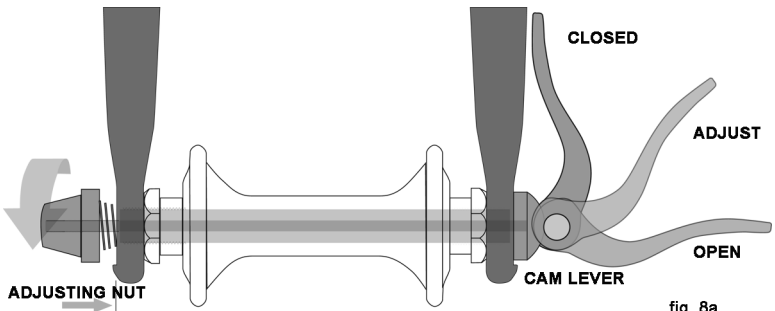

fig. 8a
There are currently two types of over-center cam wheel retention mechanisms: the traditional over-center cam (fig. 8a) and the cam-and-cup system (fig. 8b). Both use an over-center cam action to clamp the bike's wheel in place. Your bicycle may have a cam-and-cup front wheel retention system and a traditional rear wheel cam action system.
a. Adjusting the traditional cam action mechanism (fig. 8a)
(2) If your bike has cam action front wheel retention, move the cam lever from the locked or CLOSED position to the OPEN position (figs. 8a & b). If your bike has through bolt or bolt-on front wheel retention, loosen the fastener(s) a few turns counter-clockwise using an appropriate wrench, lock key or the integral lever.
(3) If your front fork has a clip-on type secondary retention device, disengage it. If your front fork has an integral secondary retention device, and a traditional cam action system (fig. 8a) loosen the tension adjusting nut enough to allow removing the wheel from the dropouts. If your front wheel uses a cam-and-cup system, (fig. 8b) squeeze the cup and cam lever together while removing the wheel. No rotation of any part is necessary with the cam-and-cup system.
(2) With the steering fork facing forward, insert the wheel between the fork blades so that the axle seats firmly at the top of the fork dropouts. The cam lever, if there is one, should be on rider's left side of the bicycle (fig. 8a & b). If your bike has a clip-on type secondary retention device, engage it.
(3) If you have a traditional cam action mechanism: holding the cam lever in the ADJUST position with your right hand, tighten the tension adjusting nut with your left hand until it is finger tight against the fork dropout (fig. 8a). If you have a cam-and-cup system: the nut and cup (fig. 8b) will have snapped into the recessed area of the fork dropouts and no adjustment should be required.
(4) While pushing the wheel firmly to the top of the slots in the fork dropouts, and at the same time centering the wheel rim in the fork
(a) With a cam action system, move the cam lever upwards and swing it into the CLOSED position (fig. 8a & b). The lever should now be parallel to the fork blade and curved toward the wheel. To apply enough clamping force, you should have to wrap your fingers around the fork blade for leverage, and the lever should leave a clear imprint in the palm of your hand.
Some bikes are equipped with a cam action seat post binder. The seat post cam action binder works exactly like the traditional wheel cam action fastener (Section 4.A.2). While a cam action binder looks like a long bolt with a lever on one end and a nut on the other, the binder uses an over-center cam action to firmly clamp the seat post (see fig. 8a).